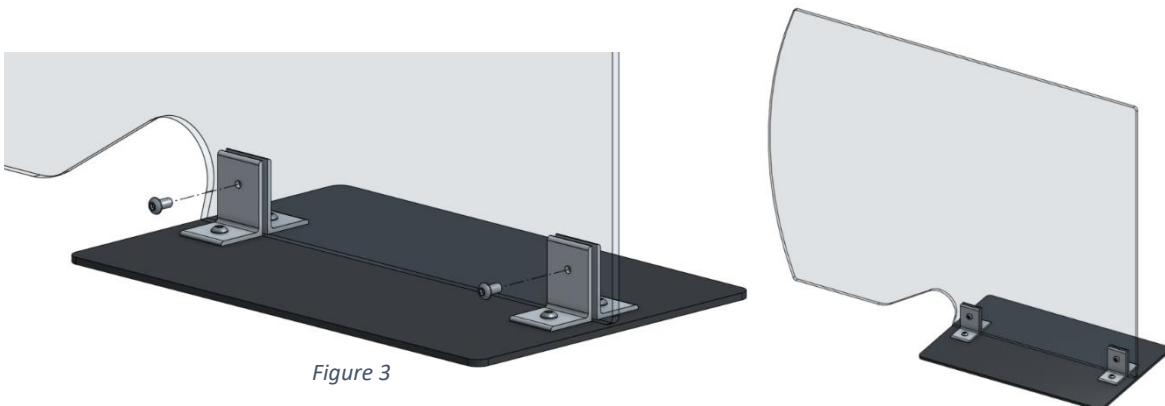

Figure 3
4. Using the provided 5/32" Allen Wrench, mount the polycarbonate partition to the "L" brackets using the longer 1/2" screws as shown in Figure 3. Make sure the screws are going into the "L" brackets with the through hole side first, then through the partition, and finally into the threaded "L" bracket to fasten everything together. Your assembly is now complete.